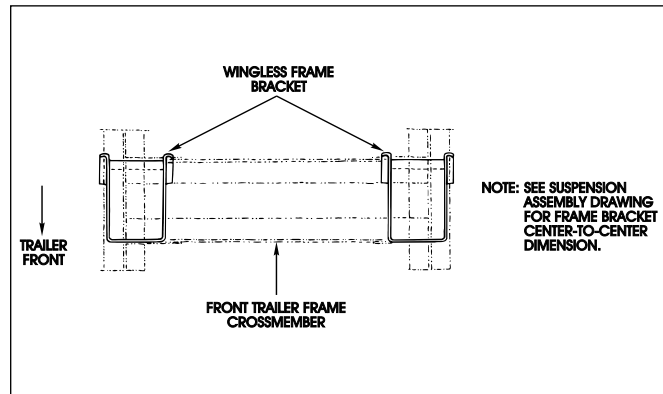

Figure 2. Frame bracket installation
1. Lift and position the frame brackets onto the trailer frame rails and the crossmembers as specified in the supplied suspension assembly drawing (Figures 2 and 3).